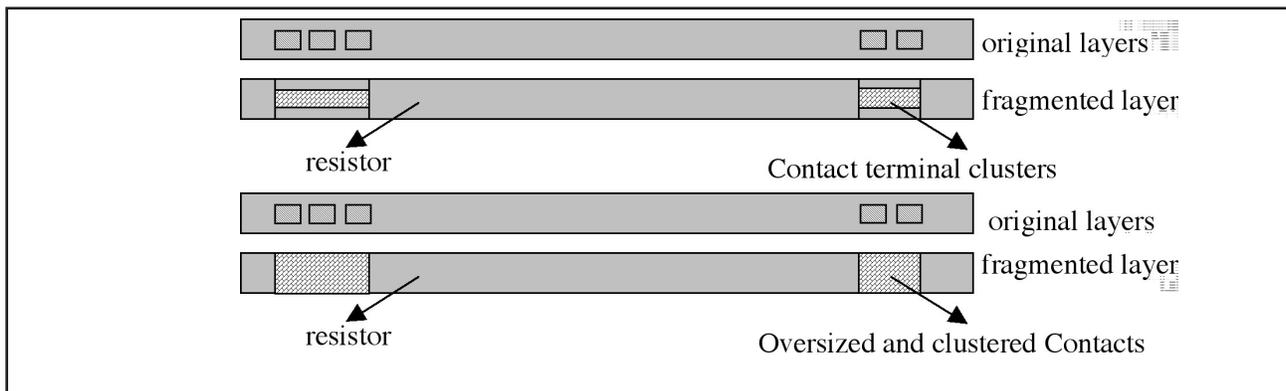

Figure 4. Contact oversizing and clustering
- Contact oversizing and contact clustering are two other options that can be very useful for reducing the number of extracted body resistors and simplify the fragmentation, see Figure 4